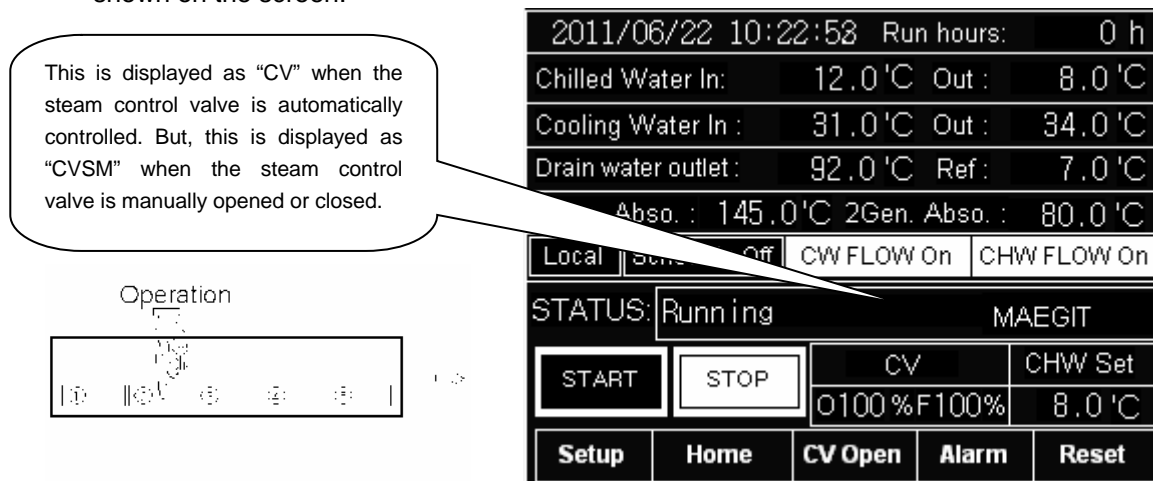

Fig. 5-4 Cooling Status Picture
If you touch ❷「Operation」 button at the lower end of screen, then Chilled Water In/Out temperature in cooling status picture will be shown if you are correct. (See Fig.5-4)
One of them is displayed as Chilled W.Set in cooling status picture, which is shown if you touch ❷「Operation」 button at the lower end of screen. (See Fig.5-4)
The cooling capacity of Absorption Machine is almost proportional to the opening rate of steam control valve, and the machine performs automatic control of the valve to meet cooling load. The opening rate of the control valve is displayed in the screen of cooling status picture. (See Fig.5-4. "CV:xx%" stands for the current opening rate under automatic control, and "CVSM:xx%" stands for the current opening rate by manual input.) When you want to open or to close the valve manually, touch ③「CV Open」 button at the lower end of the screen, then, Control Valve Open Picture will be shown on the screen.